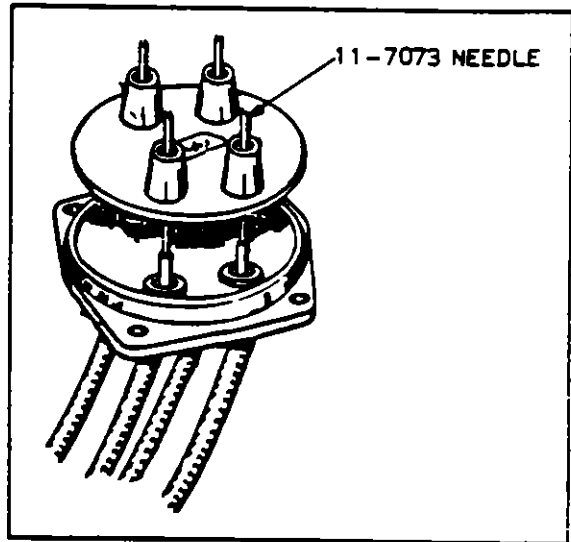
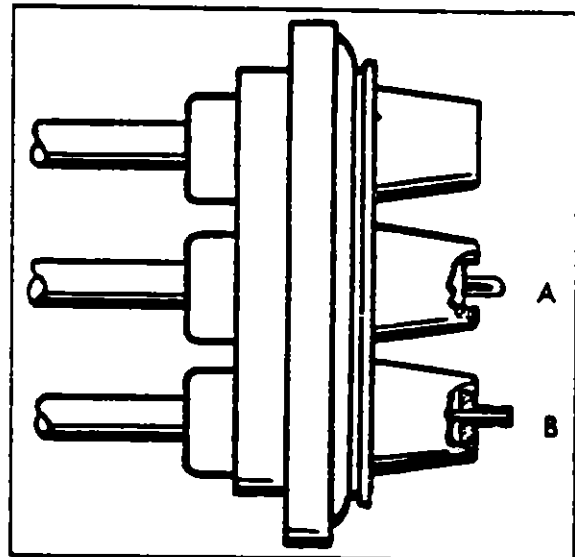

Figure 8-24. Installing Grommet Over Lead Assemblies
Figure 8-26. Wire Doubled Over For Installation of Eyelet
met and over stripped end of wire. (Refer to Figure 8-24.) Slide grommet down needle until it seats tightly against the tapered ferrule.
14. Cut wire $3/8$ inch from top of grommet outlet. (See Figure 8-24.) Double wire over as shown in A of Figure 8-26. Slide eyelet over doubled wire until it is firmly seated in recess of grommet outlet.
15. Using the "AB" groove of Scintilla 11-4152 Crimping Tool, or equivalent, crimp eyelet to wire. Approximately 1/32" of wire should extend from end of eyelet after crimping. See B of Figure 8-26.